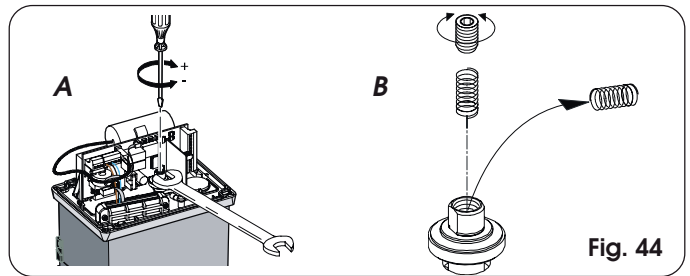

Fig. 44
- 2) Keep the motor shaft locked with a wrench and turn the clutch adjustment screw with an Allen wrench or screwdriver as shown in Fig. 44 Ref 44.
- ➔ **The operator is supplied as standard with a clutch adjustment spring for gates up to 1000 kg. For heavier gates, use the supplied alternative spring. For spring replacement instructions, see Fig. 44 Ref. B.**